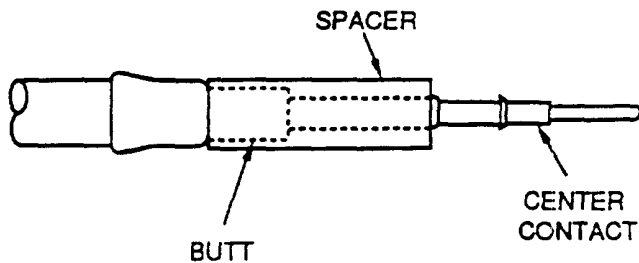

Figure 36. Install Space
e. Install spacer and center contact onto center conductor to butt insulation. Ensure that all wire strands enter center contact wire barrel (Figure 36).